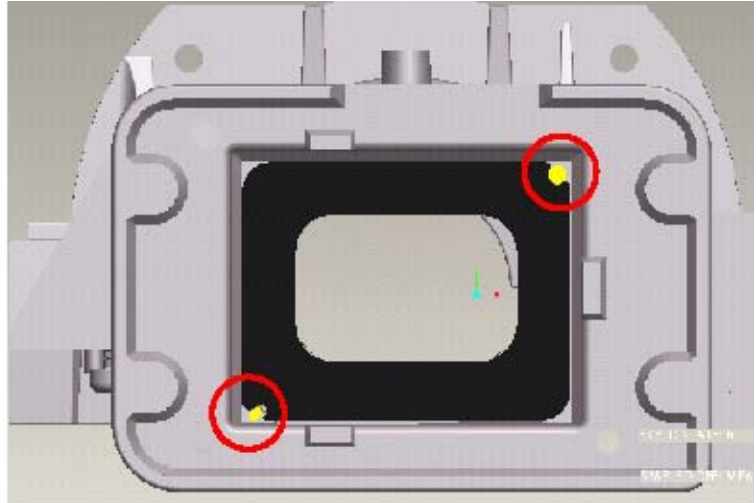

Fig 7-2
- II. The circle of Baffle_DMD have to match with the circle on HSG DMD and the Long hole is the same(Fig 7-2)